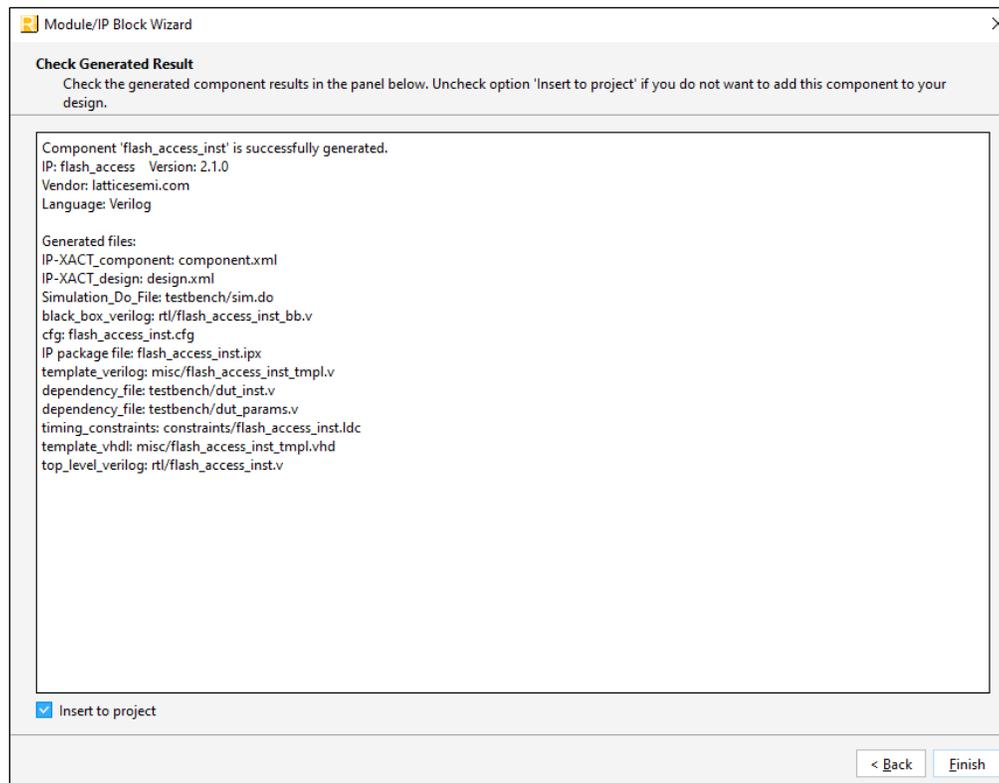

Figure 6.6. Check Generated Result
- Click **Generate**. The **Check Generated Result** dialog box opens, displaying design block messages and results (Figure 6.6).